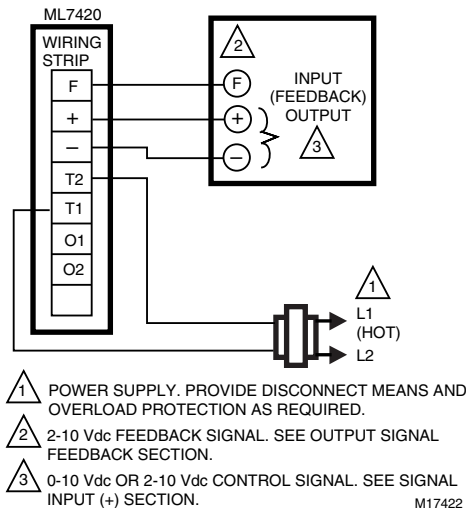

Fig. 7. ML7420 wiring using feedback output from a controller with a common transformer.
4. When wiring is complete, replace the actuator cover. See Fig. 7.